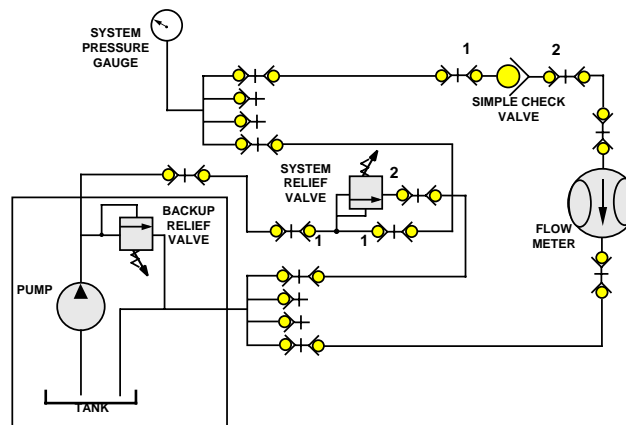

Fig. 3.5.28 Circuit
7. Reverse the check valve as in Figure 3.5.28.